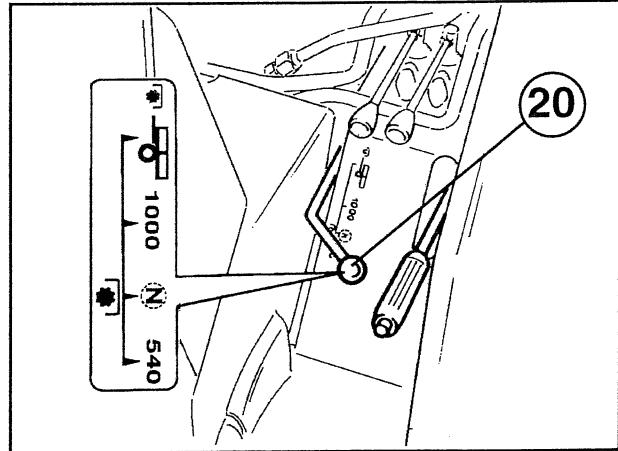

Fig. 13 PTO engager lever
The speeds can be selected by means of the PTO control lever (20) (Fig. 13) which has four positions:
- 2) Set the PTO engager lever (20) (Fig. 13) on the required speed.
Synchronized mode is selected by means of the PTO control lever "20" (Fig. 13).
There are two independent PTO speeds: 540 and 1000 r.p.m., and these can be obtained at respectively 2538 and 2411 r.p.m. of the motor speed. The speed can be selected by means of the independent PTO engagement control lever (20) (Fig. 13), which has two positions